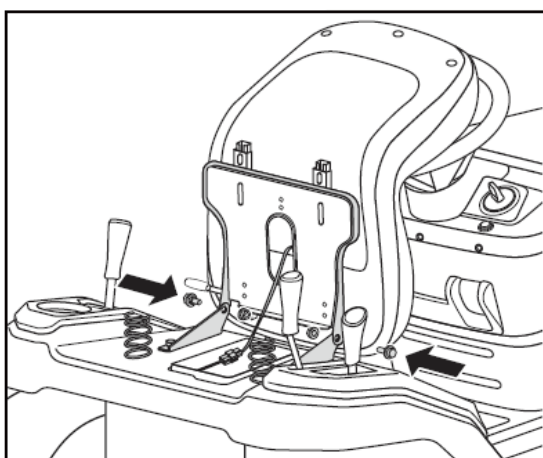

Fig. 7
1. Connect the seat to the mower base with bolts and nuts.(Fig.7)